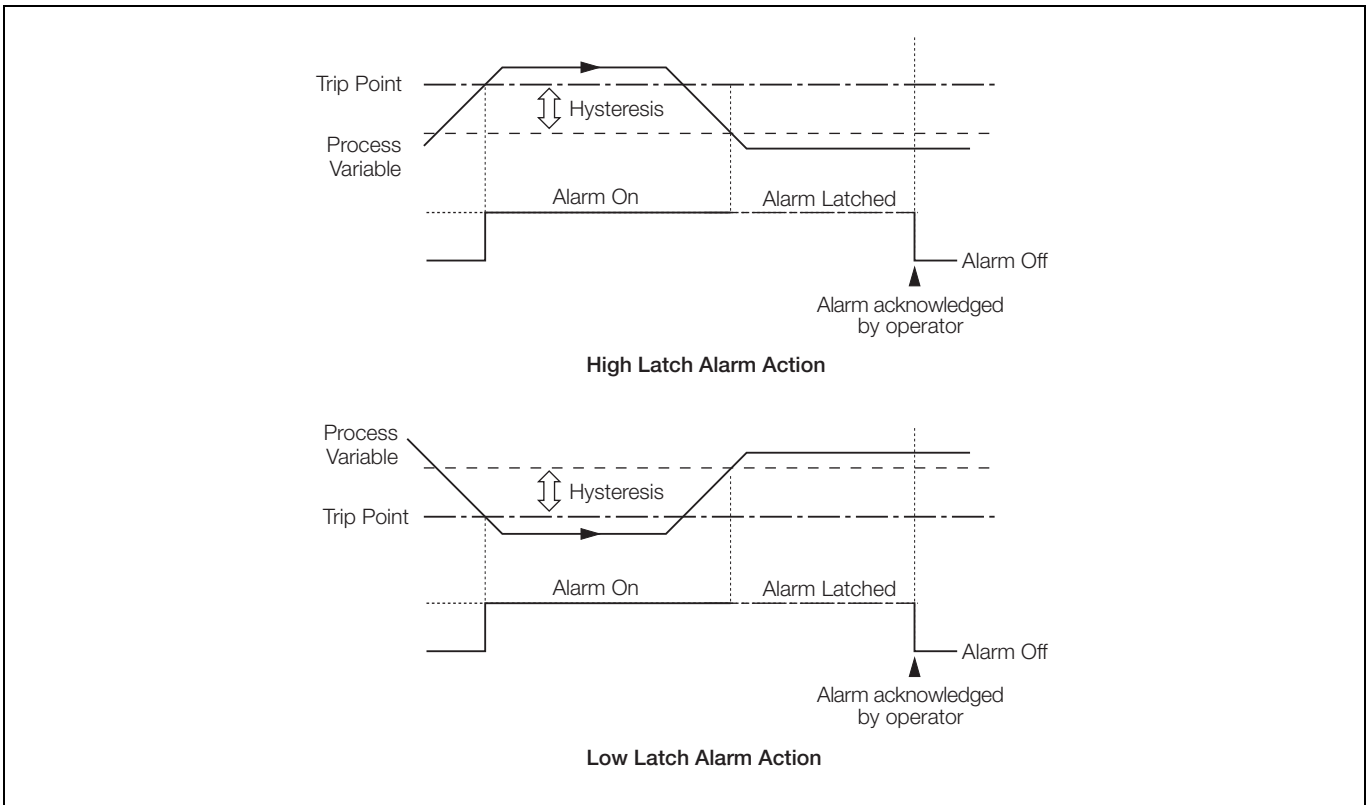

Fig. 6.12 High/Low Latch Alarms
- High/Low latch – see Fig. 6.12, page 81